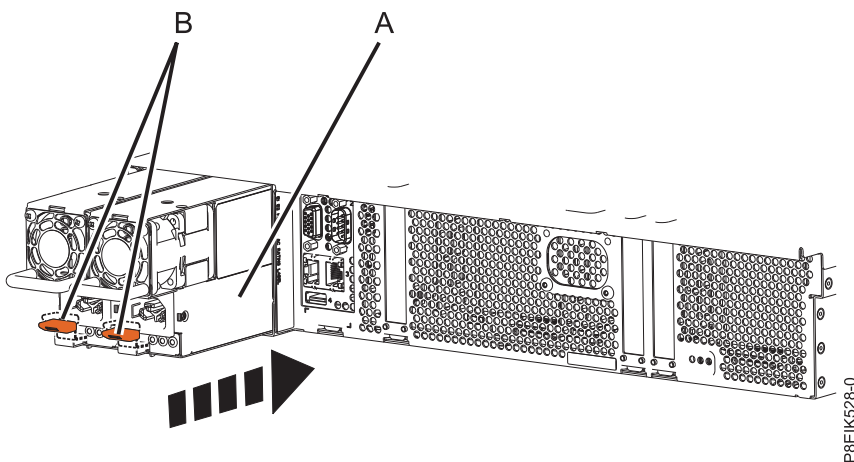

Figure 226. Replacing a power supply in the system
2. Align the power supply (A) with the bay and slide the power supply into the system until the terracotta latch (B) locks in place. See Figure 226.